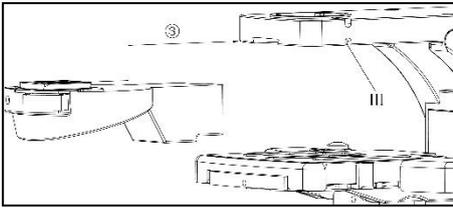

Fig.4
**4-2-3 Nosepiece installation (Fig.4)**